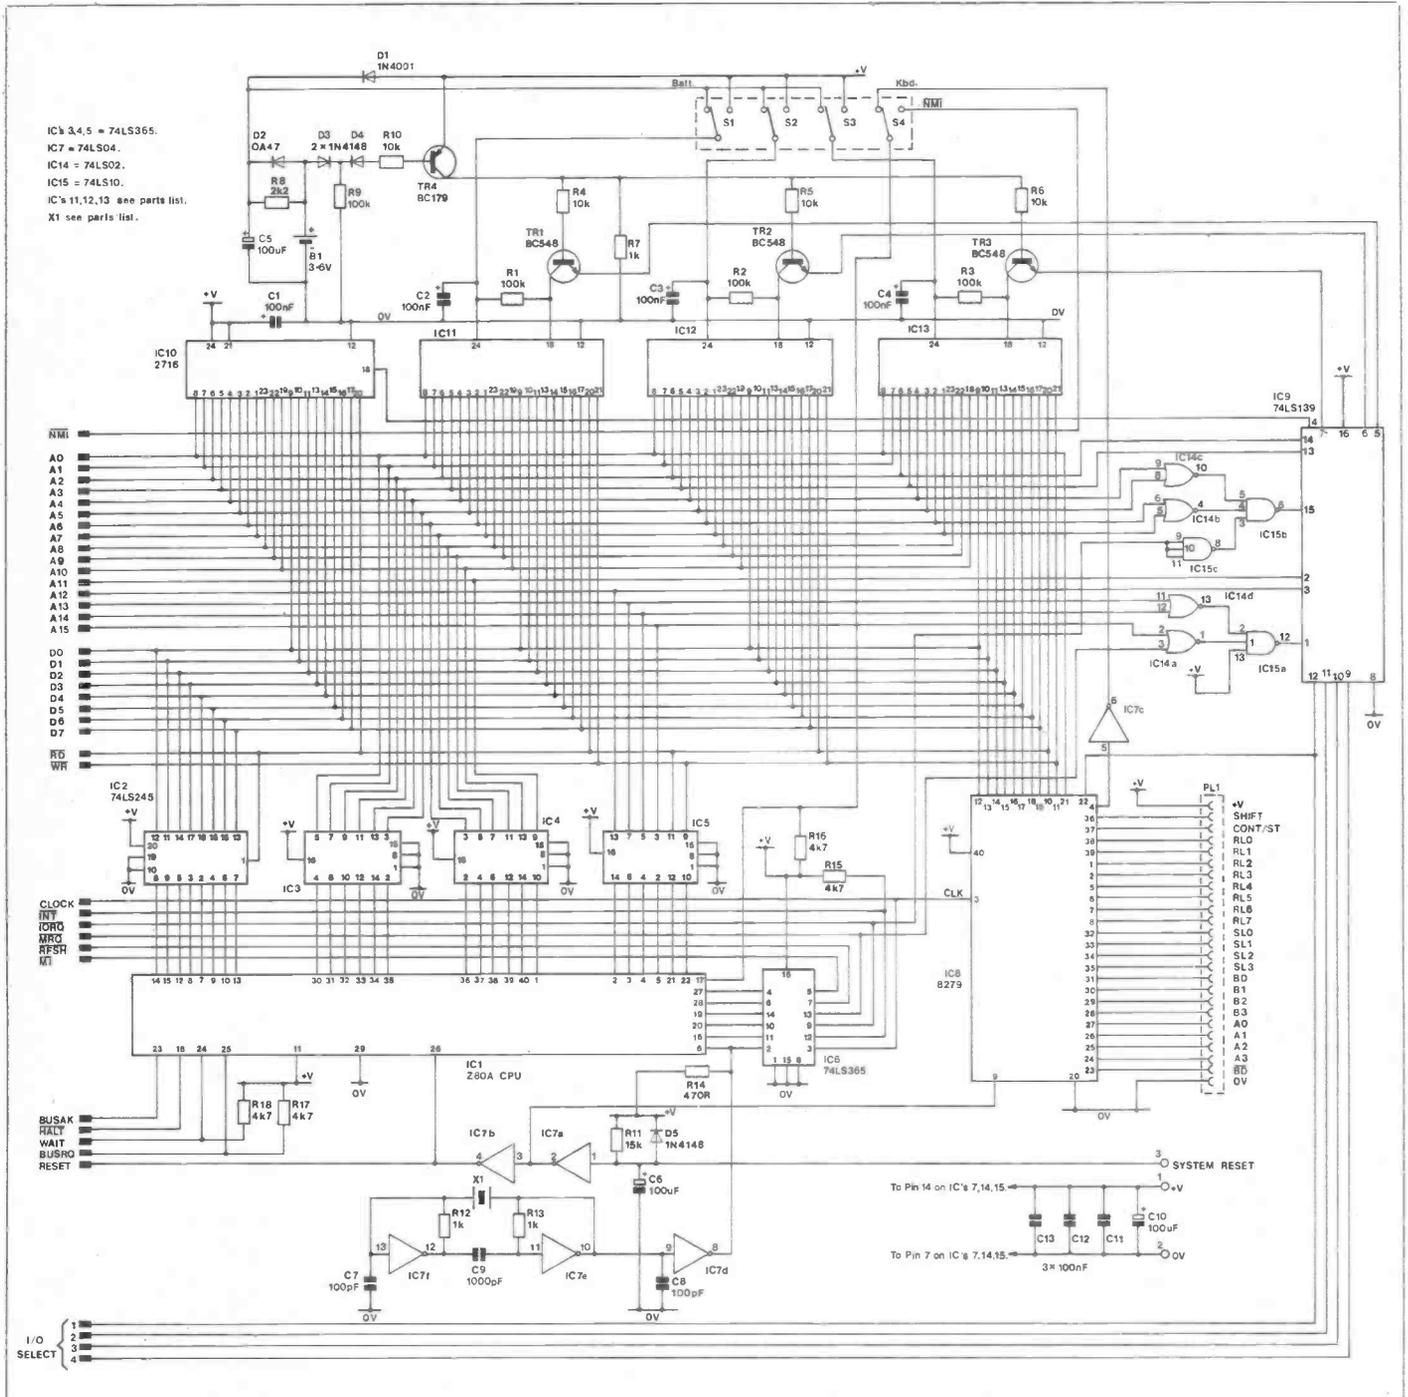

Figure 1. Maplin Z80 CPU Circuit
**T**he last article in this series mentioned the Z-80 based CPU module design published in the Maplin Magazine issue 15 as the basis for some practical experimentation. We shall begin therefore with a brief explanation of this circuit (See Figure 1), since it represents a useful means of microprocessor experimentation.